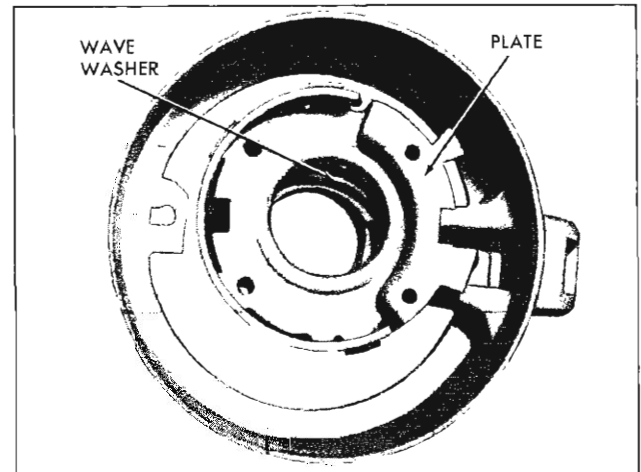

Fig. 28—Lock Plate, Wave Washer and Shift Lever Support Housing
21. Remove the lock plate, wave washer and selector lever support housing from the upper end of the mast jacket (fig. 28).